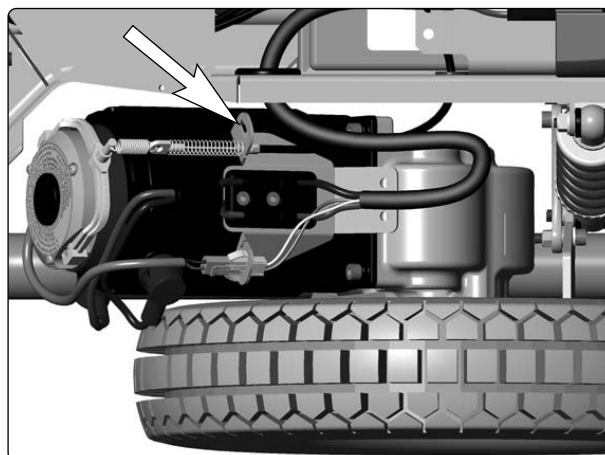

Fig. 49. Wheel lock release cable attachment.
9. Pull the cable casing forward, out through the slot in the cable holder and detach the wheel lock release cable from the magnetic wheel lock; see figure 49.